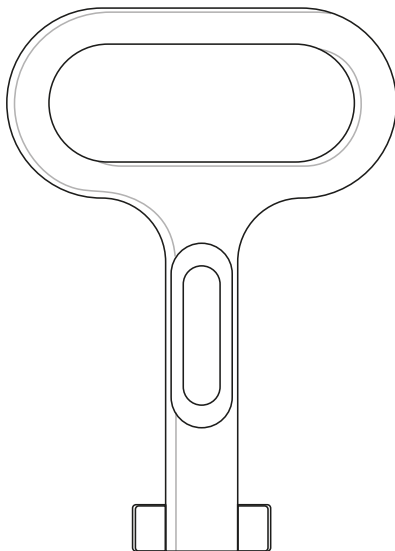

Figure 4: Enclosure Key
3. Insert enclosure key (Figure 4) into control box cover and turn to open.